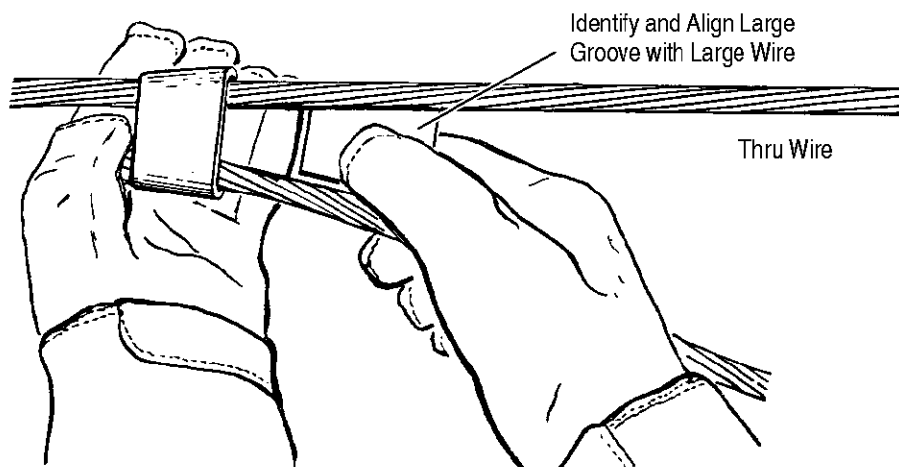

Figure 13
3. Observe the code letter or number on label or on back of wedge groove. Identify and align the large groove with the large wire. With both wires in the "C" member, push wedge between them finger tight. Wedge should go into "C" member about half its length. See Figure 13.